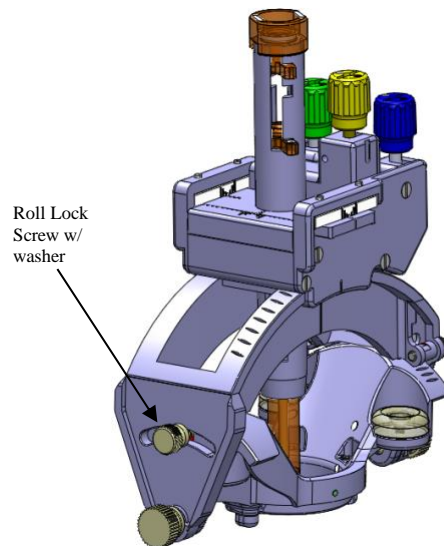

Figure 6: Roll Lock Screw w/ washer
10. Remove the Roll Lock Screw w/ washer from the SMARTFrame XG package to pre-mount in SMARTFrame XG. Screw in partially to the appropriate location on the SMARTFrame XG. See Figure 6. Ensure the Roll Lock Screw w/ washer is not tight. This screw will be tightened later in the procedure.
5. The Roll Lock Screw w/ washer must be tightened after the final roll adjustment is complete. **See Figure 6.** The Roll Lock Screw w/ washer must be loosened, for subsequent roll adjustments.